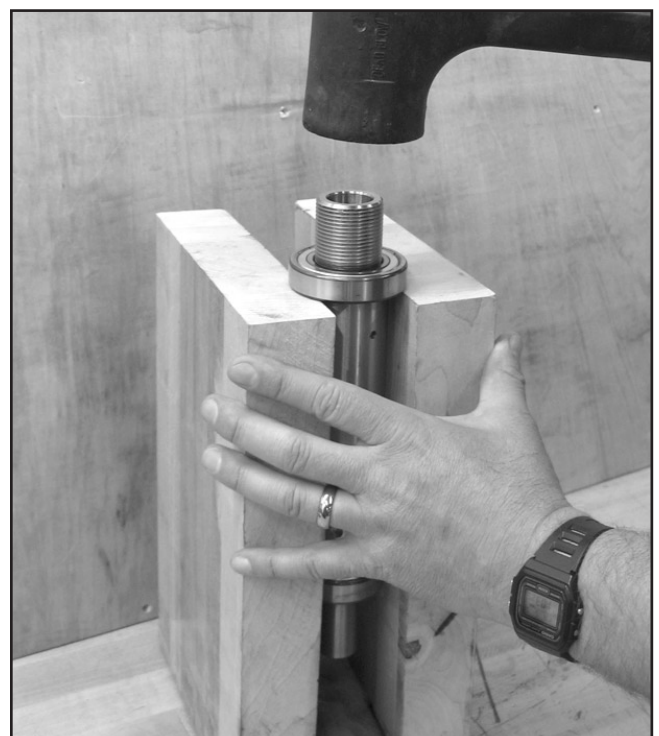

Figure 9. Removing the bearings.
- Place two blocks of wood with equal dimension against the spindle with one of the bearings resting on top. Place as many shop rags as needed under the spindle to cushion the spindle when the bearing is removed. Use a dead blow hammer to lightly tap the spindle to remove the bearing, as shown in **Figure 9**.